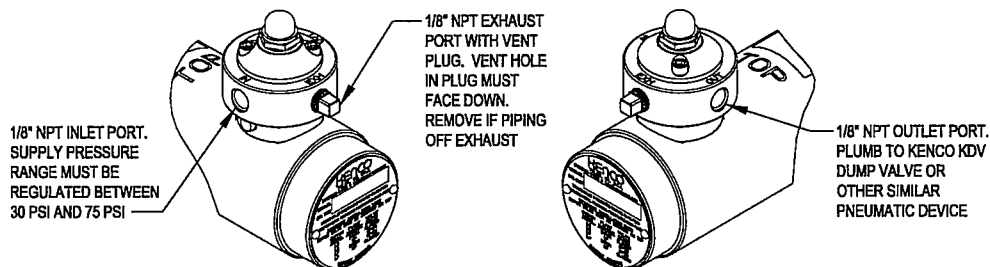

Figure 1
- For plumbing instructions, refer to Figure 1. When plumbing the valve, use a quality thread sealer. Take care not to use too much sealer since the excess could enter the valve and inhibit proper operation. Connect the supply line to the inlet port of the KPFS valve. If using a KPFS with the -R option (supplied filter/regulator), connect the Kenco regulator to the inlet port of the KPFS valve and the supply line to the inlet port of the filter/regulator. **Note: The pneumatic source must be clean and dry instrument quality air or gas. If dirt and/or moisture are allowed to enter the valve, it could inhibit proper operation.**